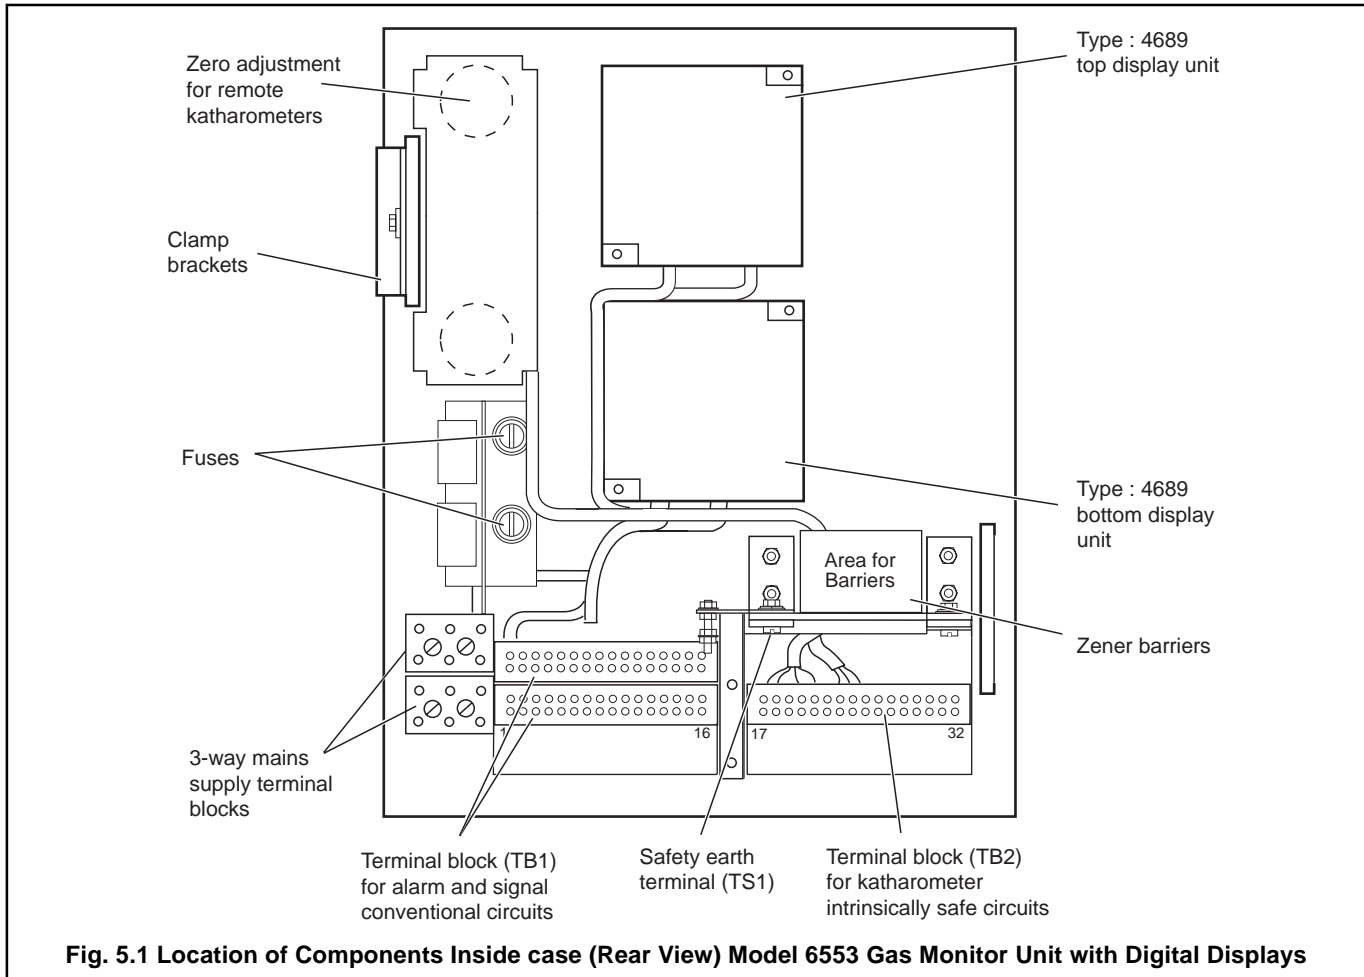

Fig. 5.1 Location of Components Inside case (Rear View) Model 6553 Gas Monitor Unit with Digital Displays
5.1.1 Model 6553 Gas Monitor (Fig 5.1)
Make the Earth (Ground) and **Safety Earth** connection at the stud (TS1) – see Fig. 5.1.